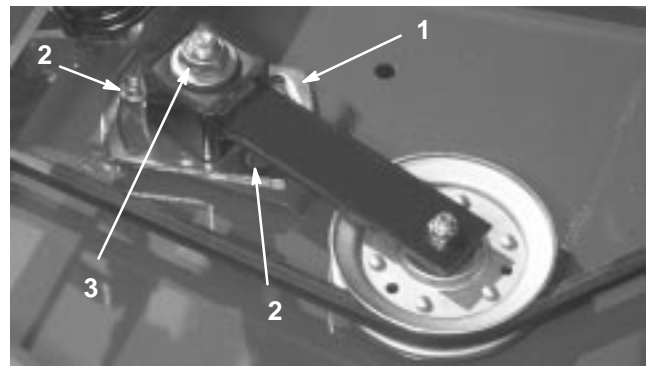

Figure 36
3. Loosen the 2 nuts securing the idler plate in place. Using a socket and torque wrench, tighten the idler adjusting nut to 40–50 ft.-lb. (54 to 68 N·m) (Fig. 36).